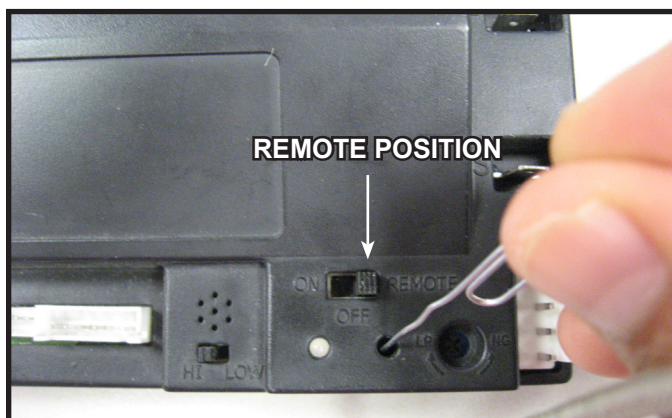

Figure 6. Programming RC200
- Verify the ON/OFF/REMOTE switch is in the REMOTE position. Green LED light will blink three times and beep once 5 seconds later when ready. See Figure 6.
- Using a small item (such as a paper clip) press and release the learn button located near the ON/OFF/REMOTE switch. See Figure 6.
- Move switch to OFF (See Figure 6).